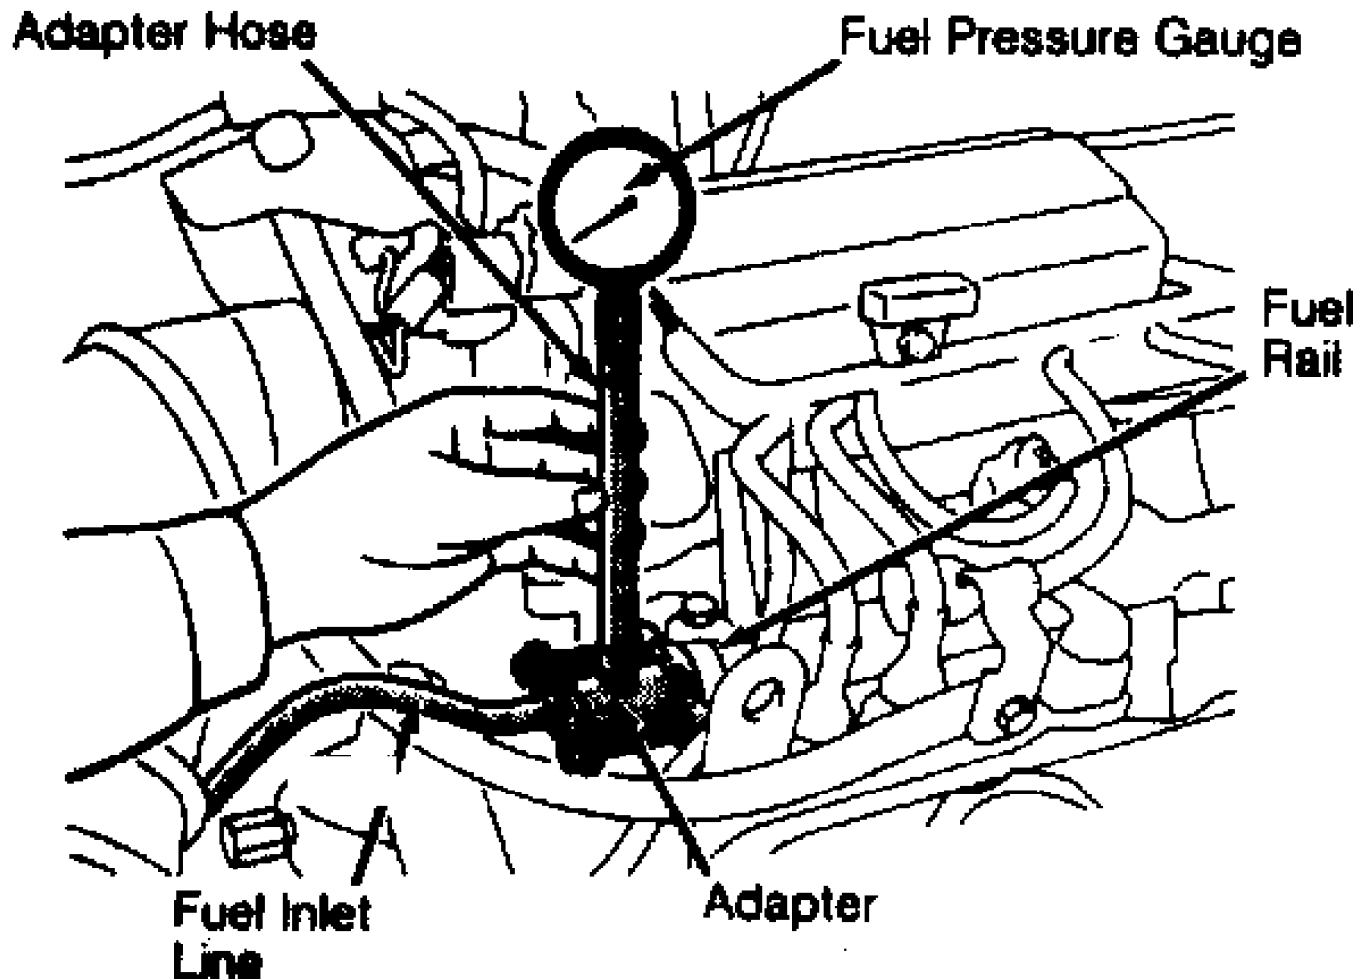

Fig. 1: Fuel Pressure Testing Connection ID (Typical Fuel Inj. Eng.)
4) Connect fuel pressure gauge with adapter between fuel delivery pipe and high pressure hose. See Fig. 1. Connect negative battery terminal. Connect battery voltage to fuel pump test terminal. See FUEL PUMP TEST TERMINAL LOCATION table. Ensure no fuel leaks are present. Disconnect battery voltage to fuel pump test terminal.